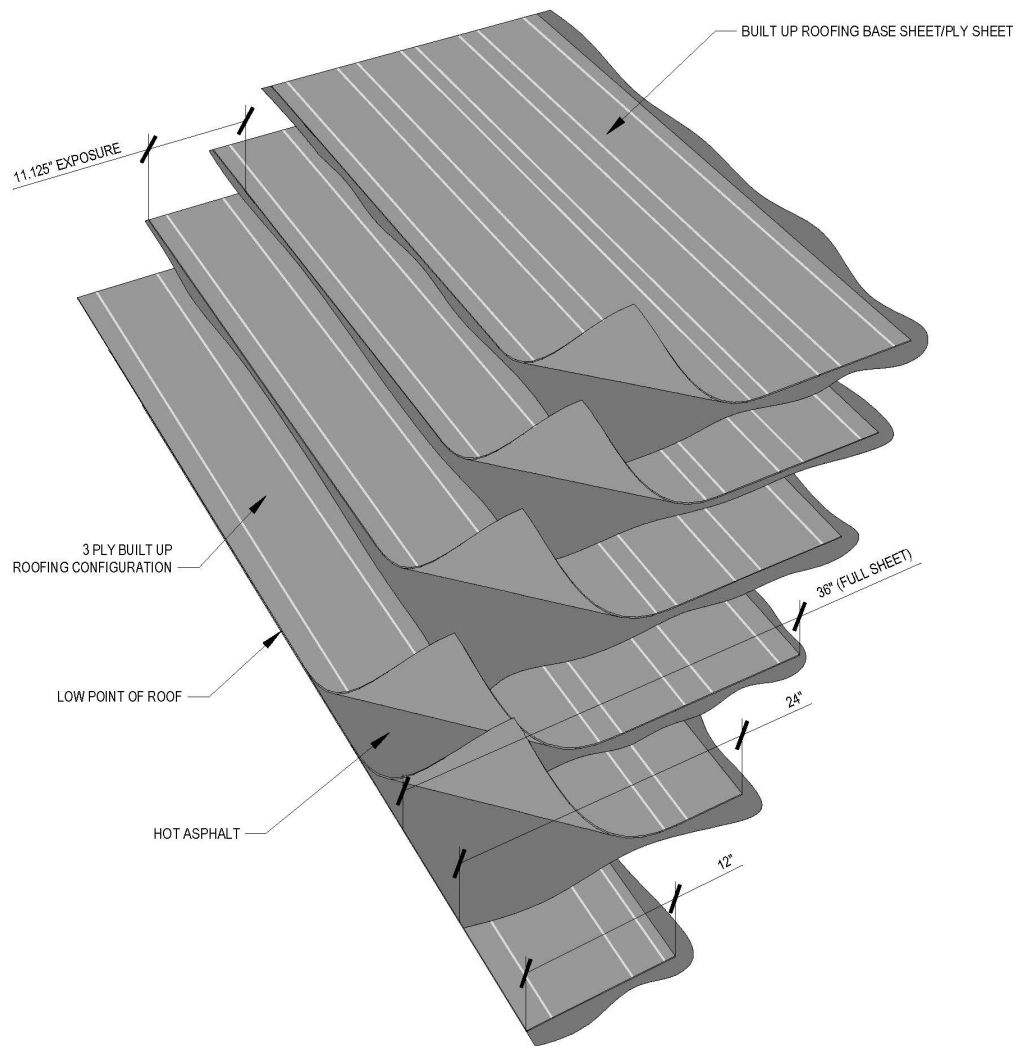

Figure 2.2b Three (3) Ply Built Up Vapor Retarder Configuration
- **THREE (3) PLY BUILT-UP VAPOR RETARDER APPLICATION** (Refer to Figure 2.2b):